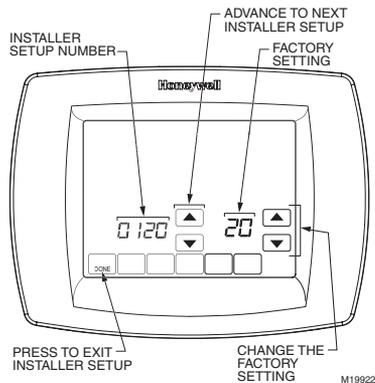

Fig. 17. Installer Setup Number and factory setting selection locations.
4. The Installer Setup Number is displayed in the lower left. It is a four-digit code beginning with zero. The factory setting or other choice selection is displayed in the lower right. See Fig. 17. This is a two-digit code shown in the Option column of Table 4.
1. Advance to the next Installer Setup Number by pressing the up and down arrow keys to the right of the four-digit Installer Setup Number. See Fig. 17.
2. Change the factory Setting Options by pressing the up and down arrow keys right of the two-digit code selection. See Fig. 17.